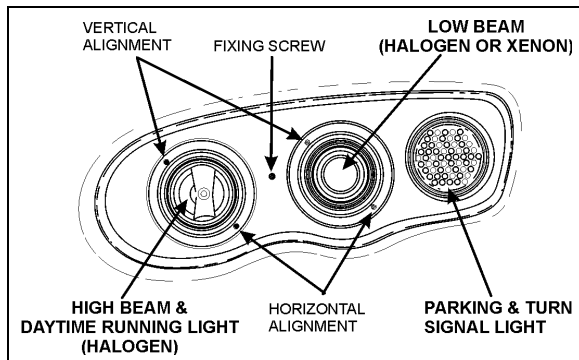

FIGURE 37: HEADLIGHT ASSEMBLY
vertical aiming of each module is provided by two adjusting screws that pivot the module in the housing for proper alignment (Figure 37). There is no adjustment for focus since the module is set for proper focus during manufacturing assembly.
2. Make sure that headlight assembly fixing screw is properly fastened (Figure 37).
If beam is offset, a LOW CANDLES message will appear. Using vertical and horizontal alignment screws, adjust beam as needed (Figure 37).